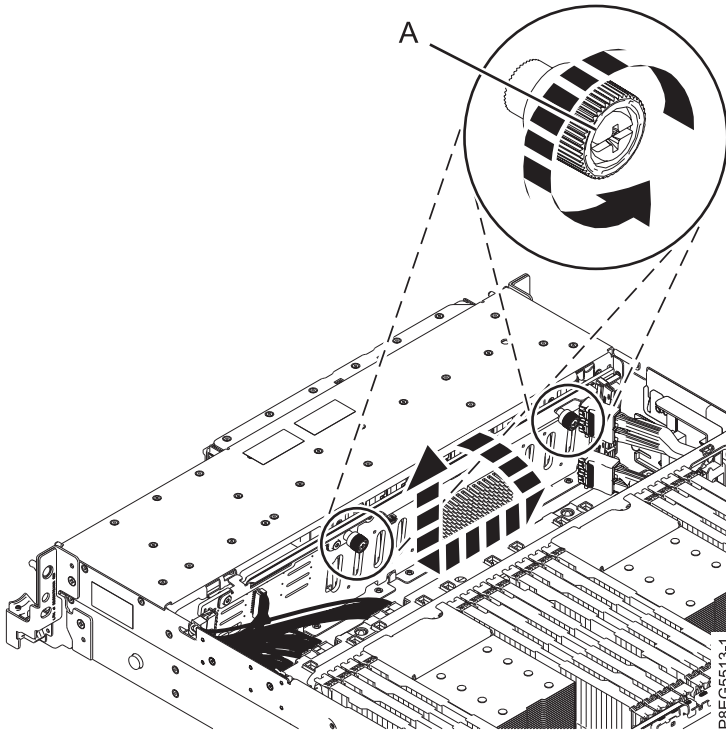

Figure 16. Unfastening the disk drive backplane
6. Carefully unscrew each of the disk drive backplane's captive thumbscrews (**A**) until fully loose as shown in Figure 16.